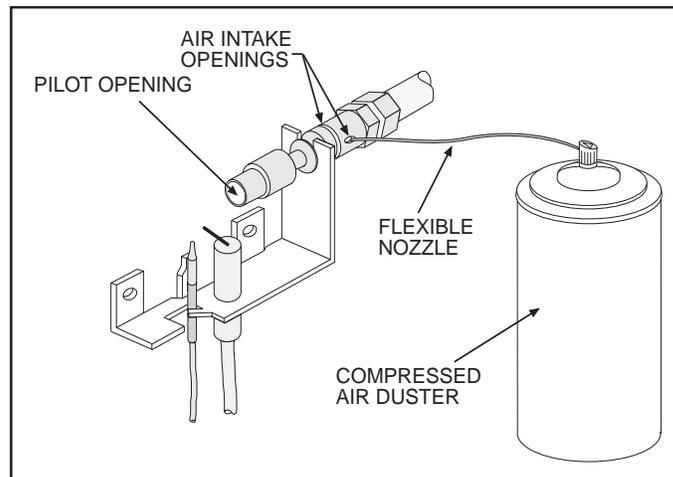

Figure 29
4. If the pilot flame does not burn as indicated in the instructions, extinguish the pilot by turning the valve to the full off position. Using a compressed air duster (commonly available at computer, electronic or office supply stores), insert the flexible nozzle through either Air Intake Openings, insuring that the nozzle is pointed toward the pilot opening (See Figure 29). Blow air through both Air Intake Openings to clear out any debris that may be in the system.